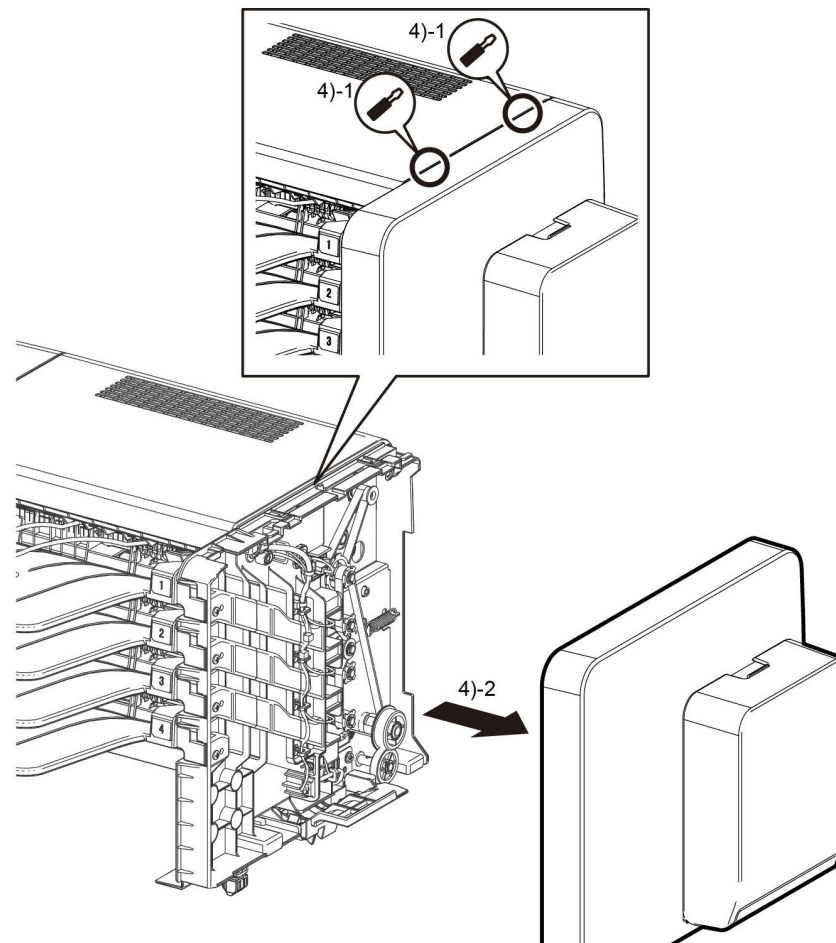

Figure 2 Right cover removal
4. Perform the items that follow, Figure 2: